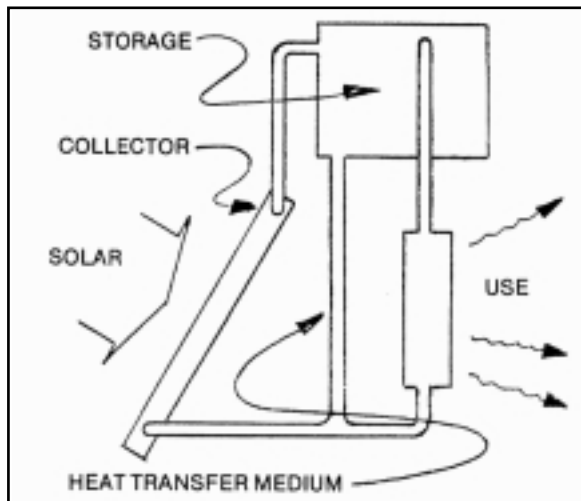

Fig. 2: (above) Block diagram of a solar water-heating system
**Mh:** There are a few parts that are basic to most solar water heating systems (Fig. 2): collector(s), storage tank, heat transfer medium, and interconnecting plumbing. The collector intercepts the sun's rays and converts it into heat which is transferred to the storage tank using a fluid such as water or antifreeze. An expansion tank is used in closed systems to accommodate the slight changes in volume that result when water or antifreeze is heated and expands. If glycol (a non-toxic antifreeze liquid) is used, a heat exchanger is needed to transfer the heat from the collector to the water that will exit the faucet. A T&P (temperature and pressure) relief valve is a common safety device found at the top of water heaters. If the water gets hotter than it should or the system builds up too much pressure, this valve will open, releasing water until the temperature or pressure drops to safer levels. The simplest control system disables the backup heating system (gas or electricity) during daylight hours, giving